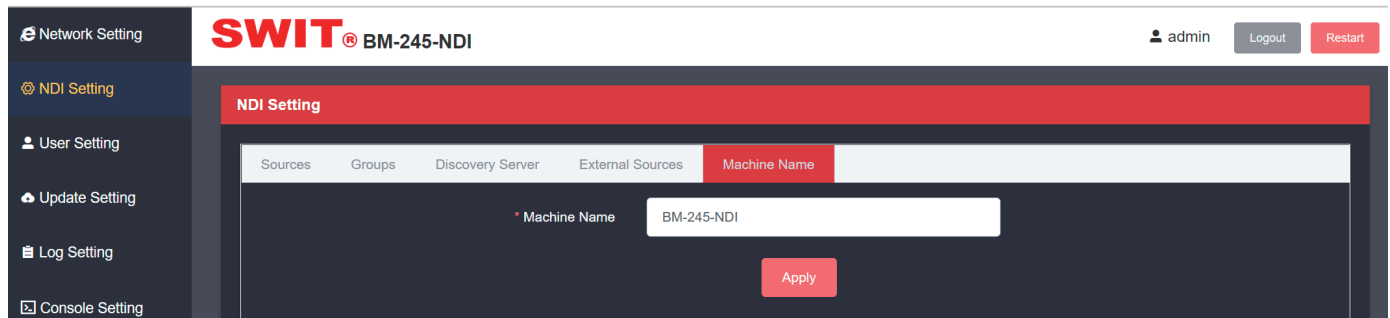

Fig.7
3. You can change the device name according to your requirements and click "Apply" to modify it successfully. See Fig. 7 below for details.